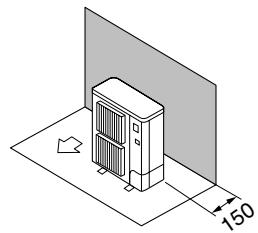

Fig. 2-2
① Solo ostacoli posteriori (Fig. 2-2)